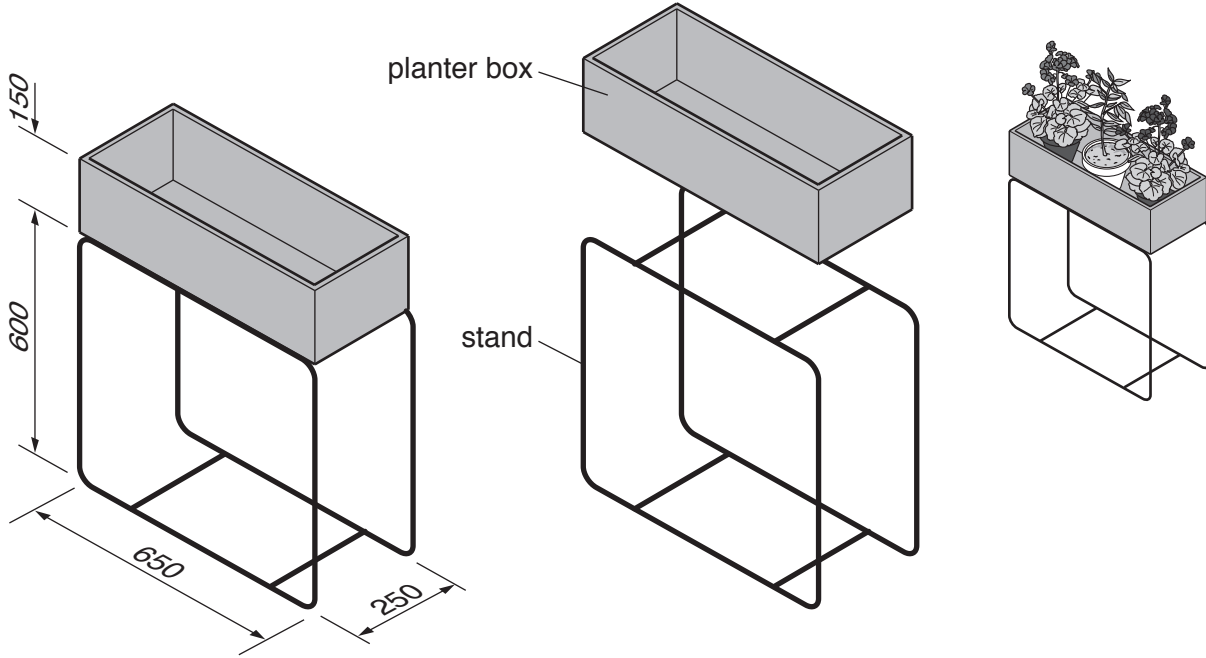

Fig. 8
- 11 Fig. 8 shows views of a planter box and stand.